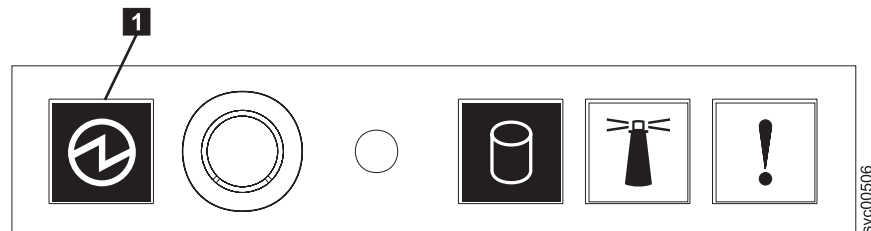

Figure 82. Power LED on the SAN Volume Controller 2145-8A4 operator-information panel
**Is the power LED on the operator-information panel continuously illuminated?** Figure 82 shows the location of the power LED **1** on the operator-information panel.